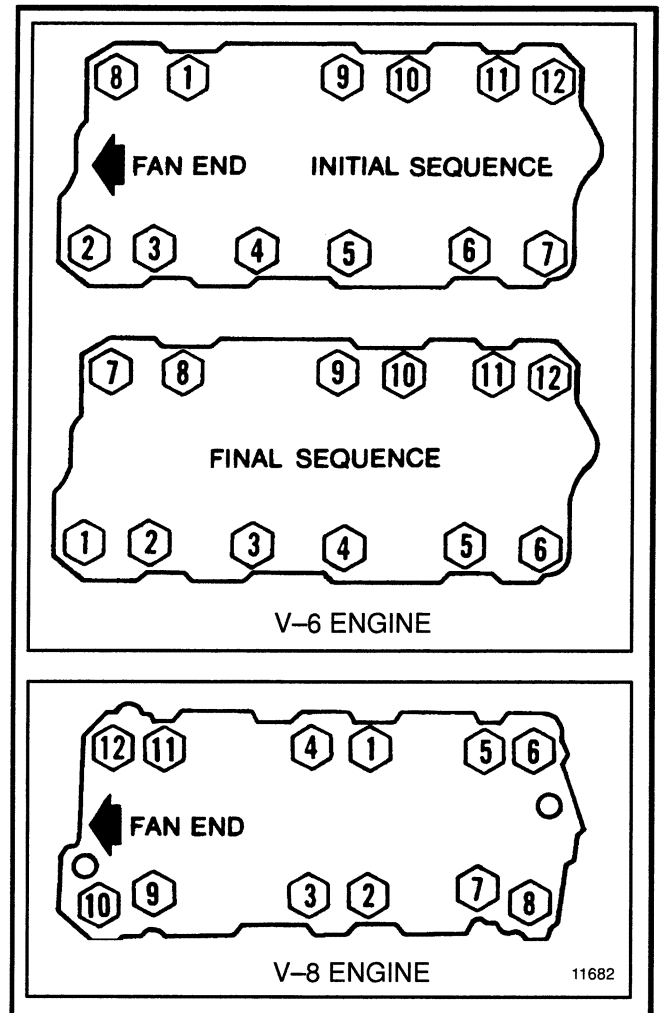

FIGURE 6. TIGHTENING SEQUENCE, INLET MANIFOLD
5. Install the intake manifold and gaskets. Tighten the capscrews in the sequence shown in FIGURE 6. On the V-6 engines, tighten the capscrews to 47 N.m (35 lb_f ft). On the V-8 engines, tighten the capscrews to 41 N.m (30 lb_f ft).